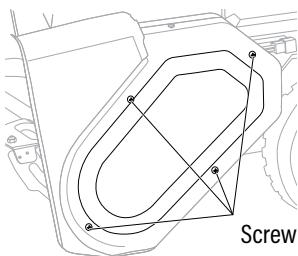

Fig. 14A
1. Unscrew the five screws with a Phillips screwdriver to remove the drive belt cover. (Fig. 14A)